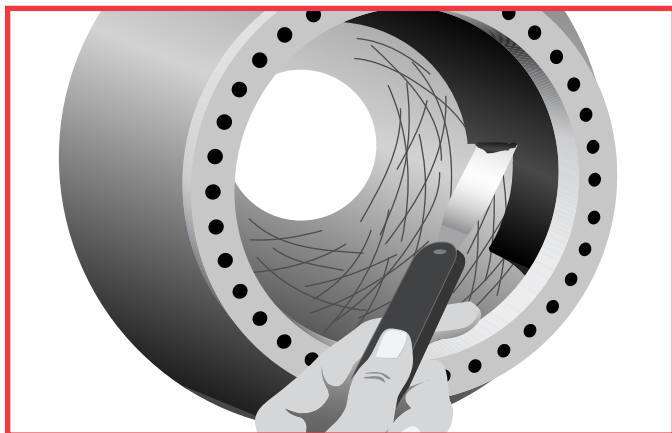

Figure 40. Epoxy putty is used to rebuild worn areas of volute.
2. **Build up the gouges** and worn areas on the inside of the body by applying a smooth coating of epoxy. To avoid air entrapment, use a suitably shaped thin plastic or metal applicator to apply a thin coat of product to all faces of the cavities. (See figure 40)